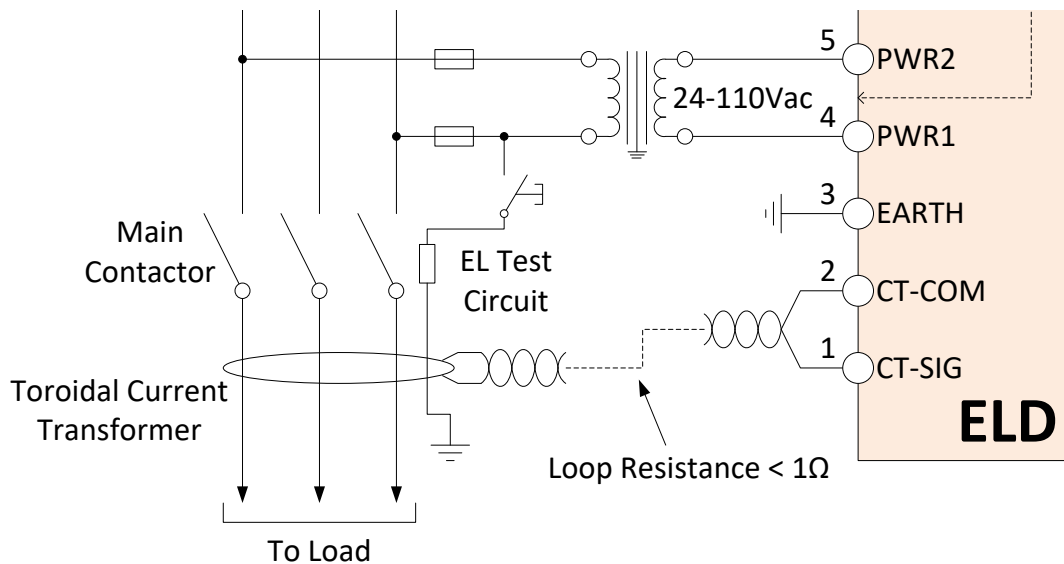

Figure 5-1: Earth Leakage Test Circuit
Inject a test current at 120% of the trip level setting through the toroid, as shown in Figure 5-1. Verify that the ELD V3 relay trips as expected.
- Inject a test current at 120% of the trip level setting through the toroid, as shown in Figure 5-1. Verify that the relay trips as expected.